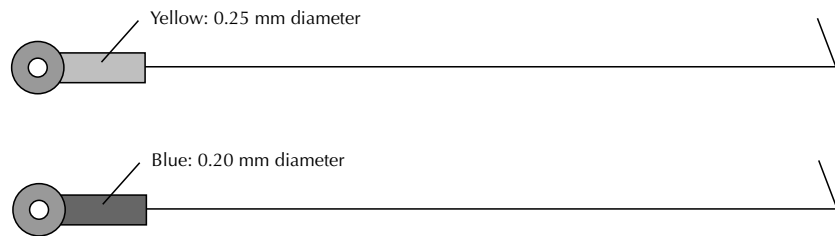

Figure 5-9. Bubble Hooks.
4. Remove any bubbles that form during gel pouring using a bubble hook (Figure 5-9).